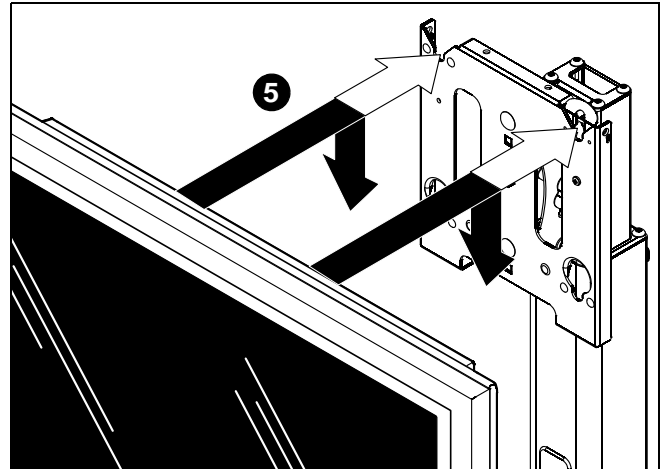

Figure 7
4. While supporting both sides of display, align four mounting buttons on display or interface bracket with four mounting holes in head assembly. (See Figures 7 and 8)
5. Lower display into place listening for audible "click" to ensure recessed area of mounting buttons are properly seated in lower area of mounting holes. (See Figures 7 and 8)